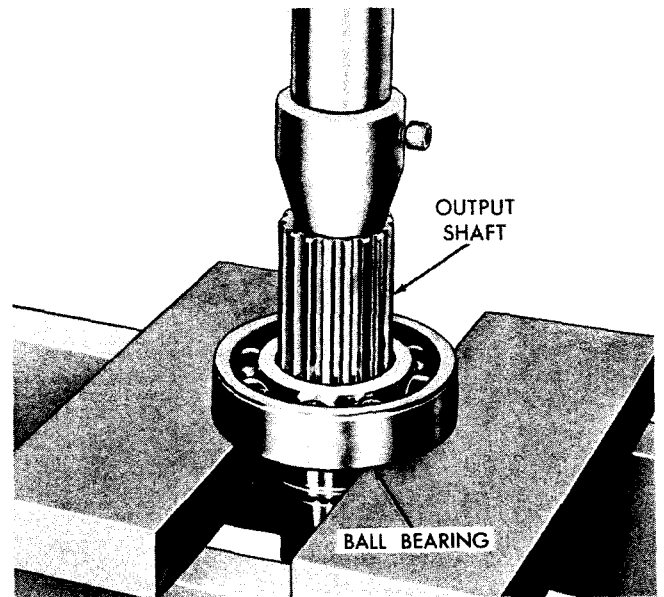

Fig VI-38. Pressing output shaft from bearing
(2) To remove the ball bearing from the shaft, support the bearing and shaft assembly, rear end up, on the bearing inner race. Press the shaft out of the bearing, using an arbor press (fig. VI-38).